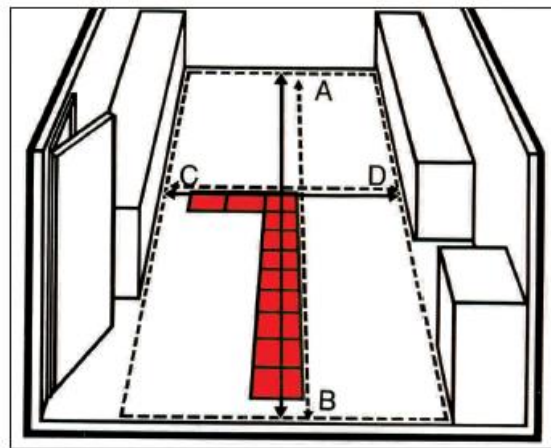

Fig 3
1.4 Repeat step 1.3 with the other wall and mark a new chalk line parallel to the original **C-D**. **Refer to Fig 3**